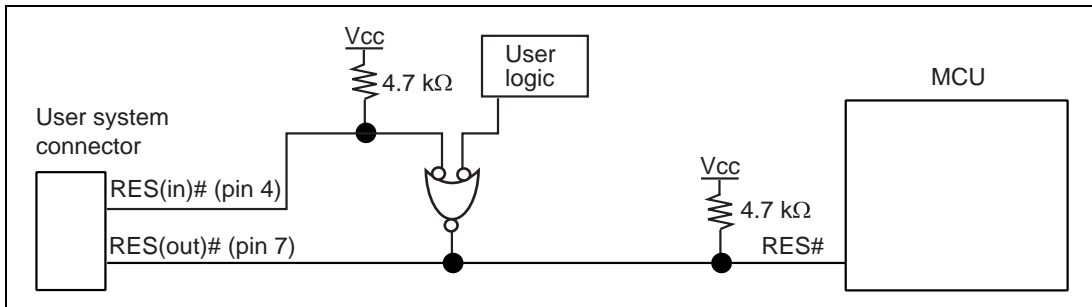

Figure 1.6 Connection of Pin RES#
- RES(in)# of pin 4 of the user system connector is a signal line in which the emulator outputs signals to the MCU. RES(in)# of pin 4 and the user logic reset circuit must be connected to the MCU, as shown in figure 1.6. RES(out)# of pin 7 of the user system connector is a signal line in which the emulator monitors pin RES# of the MCU. The RES# must be pulled up before it is connected to pin 7 of the user system connector.